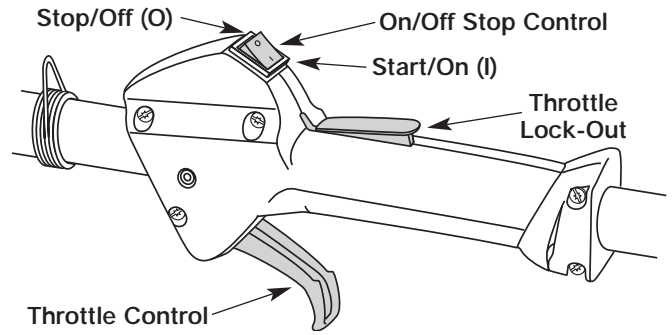
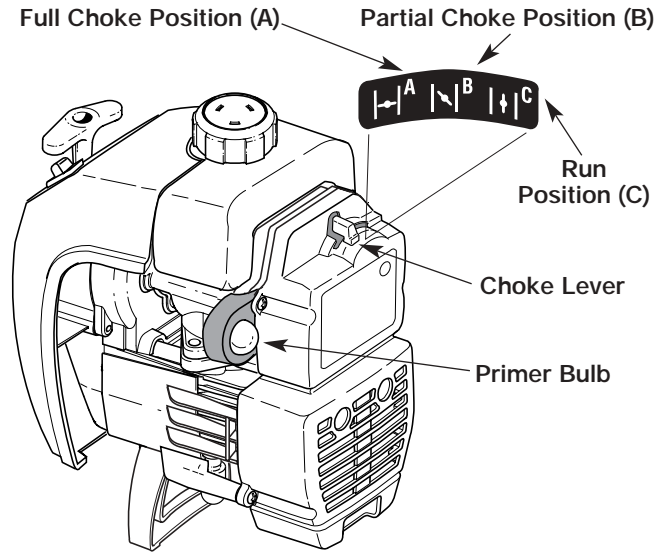

FIGURE 16
FIGURE 17
2. Put the ignition switch in the **ON (I)** position, Figure 16.
3. Fully press and release the primer bulb 5 to 7 times, slowly, until **FUEL IS VISIBLE IN THE PRIMER BULB**, Figure 17. If you can't see fuel in the bulb, press and release the bulb three (3) additional times, or as many times as it takes before you can see fuel in it.
4. Place the choke lever in the **FULL choke (A)** |←| position, Figure 17.
6. Place the choke lever in the **PARTIAL choke (B)** |↘| position, Figure 17.
9. Squeeze the throttle control to warm up engine for 5 to 10 seconds. Place the choke lever in the **RUN (C)** |↑| position, Figure 17.
NOTE: *Choking is unnecessary when starting a warm engine. Put the ignition switch in the ON position (Figure 16), and start in PARTIAL choke (B) |↘| position (Figure 17).*
2. Put the ignition switch in the **OFF (O)** position, Figure 16.